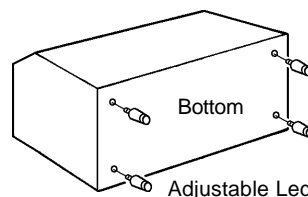

Fig. 3
- 1) Lay the Storage Bin on its rear side carefully to prevent damage. Secure the four adjustable legs (bin accessory) into the four tapped holes on the underside of the Bin. See Fig. 3.